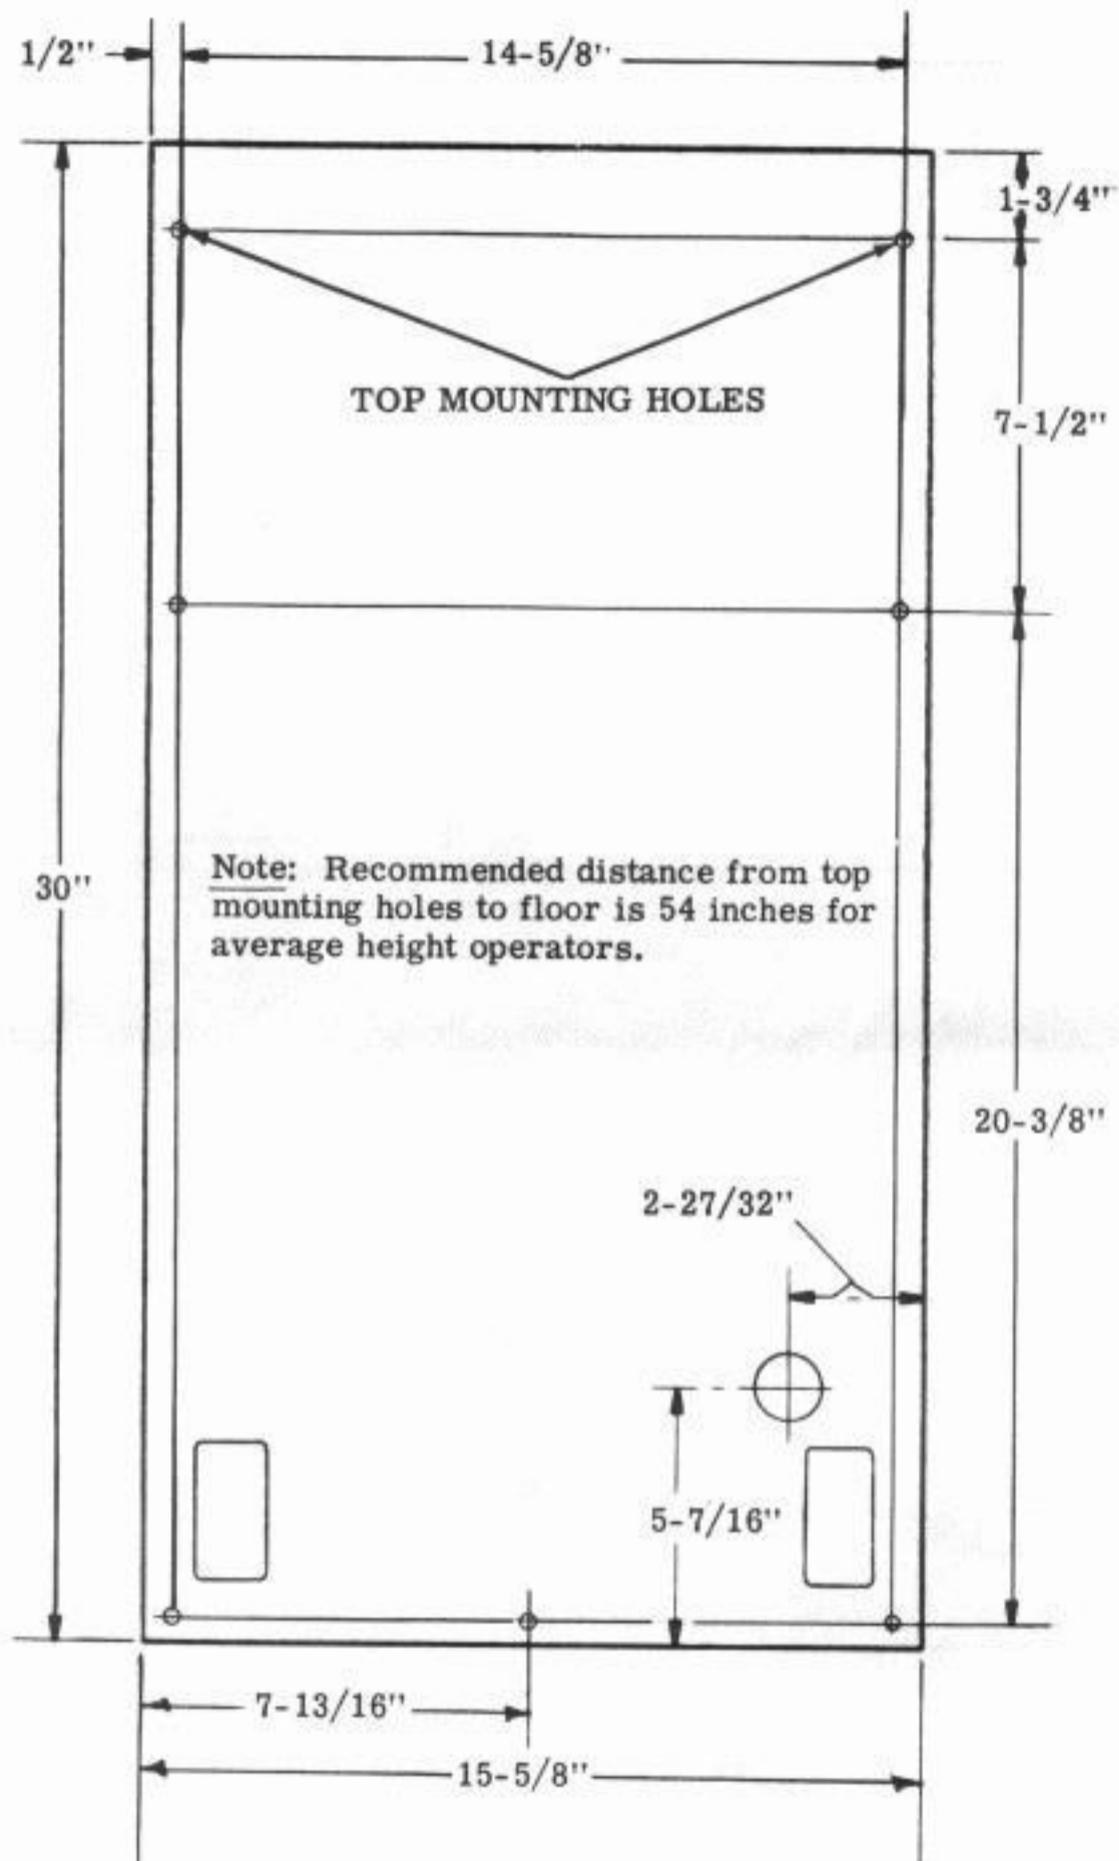

Figure 8 - Location of Mounting Holes for Backplate
2.45 The locations of the mounting holes on the backplate assembly are shown in Figure 8. Since the horizontal distance between holes is 14-5/8 inches, the backplate cannot be mounted on standard 16 inch center-to-center wall studs. When attaching the backplate assembly to wall structures where the existing mounting holes are unsatisfactory, alternate holes may be added along the side and bottom edges. No mounting hardware can be located along the upper central edge because it would interfere with the paper supply.
2.47 As indicated in Figure 8, the recommended height from the floor to the top mounting holes is 54 inches. This distance has been found satisfactory to accommodate an average height operator. If desired, the height may be varied to meet the customer's requirements.